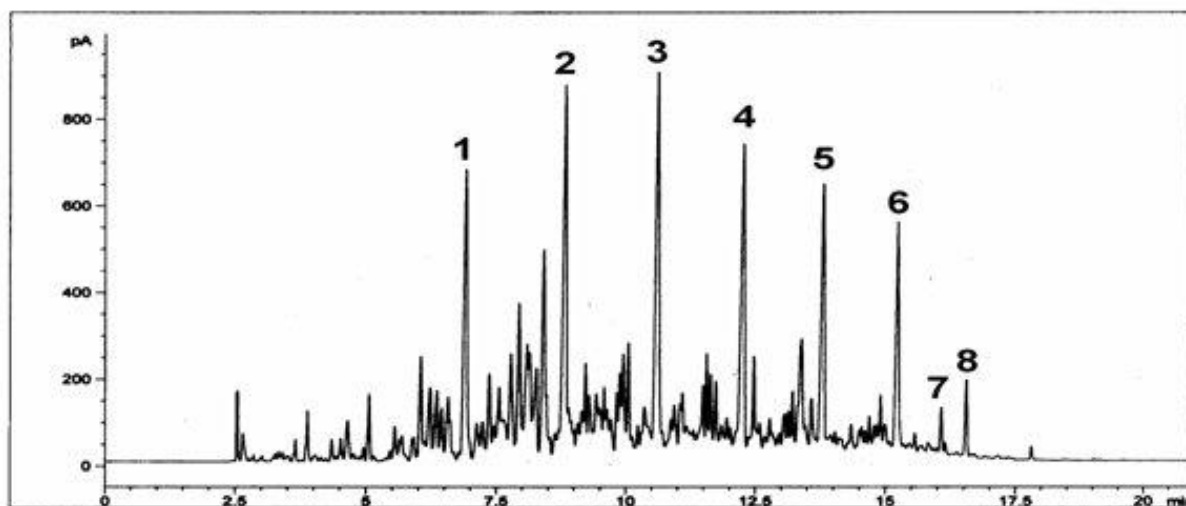

Fig. 1. GC chromatogram of paraffin. Peak identities: (1) C₉, (2) C₁₀, (3) C₁₁, (4) C₁₂, (5) C₁₃, (6) C₁₄, (8) C₁₅
A chromatogram of unevaporated paraffin is shown in Fig.1. It displays seven evenly spaced characteristic peaks due to n-alkane fractions.
1. Measure the peak height and retention time of the seven n-alkane. These are the most intense peaks which have been numbered for you in Fig. 1. Use a ruler to measure the peak height, in mm, and read the retention time from the